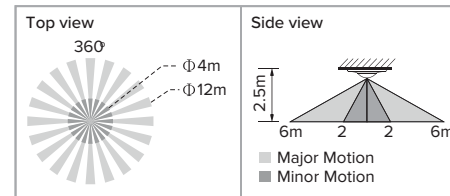

FIG.2
3.1.1 The sensor can be installed at the height of 2-4m and the height of 2.5m is recommended to gain the optimal detection pattern. The detection range can reach up to the diameter of 12m and 360° detection angle (See FIG.2).